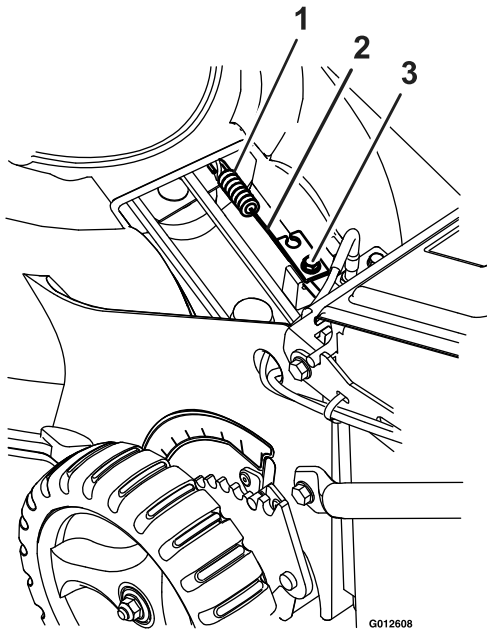

Figure 29
4. Loosen the cable clamp screw until the cable conduit slides (see Figure 29).